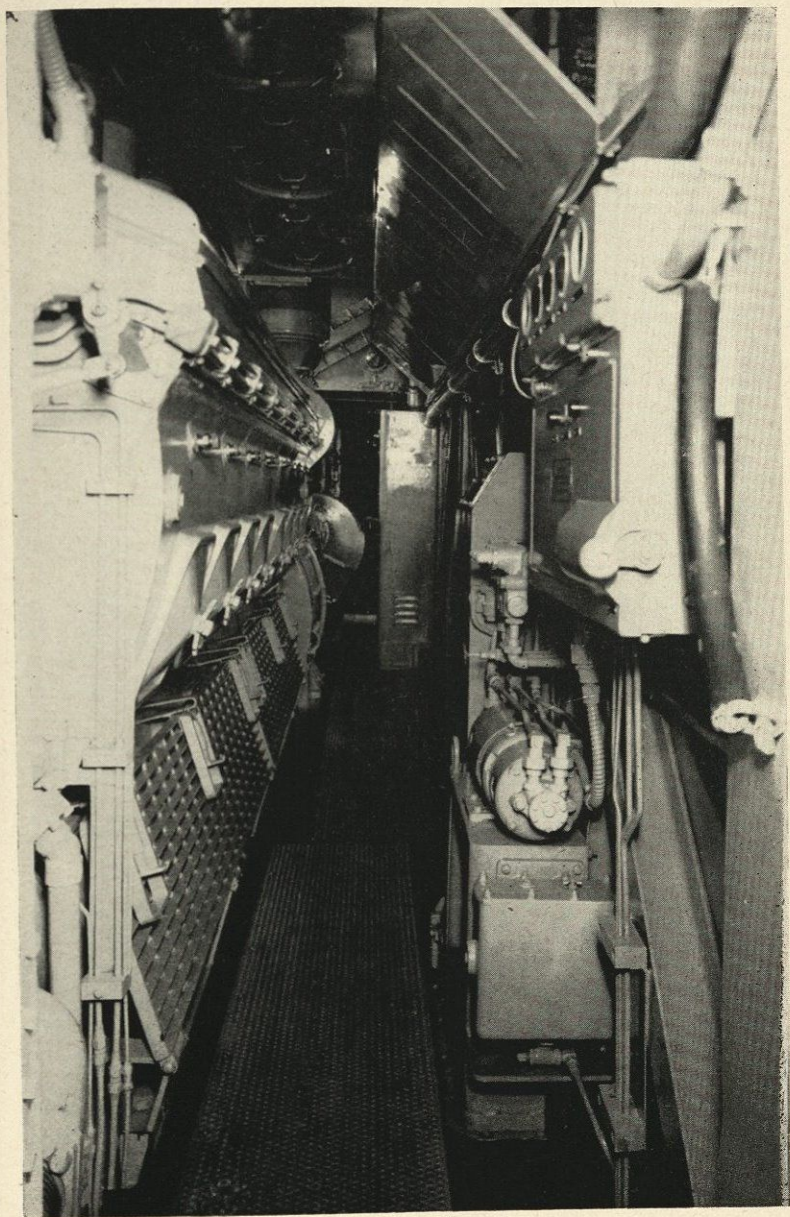

Fig. 12
21. Figure 12 is a view looking forward along the aisle on the engineer's side of the "A" unit shown in Fig. 11. The *engine* control panel, indicated in Fig. 11, can be seen on the wall, at the right, in Fig. 12. The sand box is just ahead of the control panel. The fuel filter is on the floor at the right. The fuel pump assembly is above and just beyond the fuel filter. The engine, of